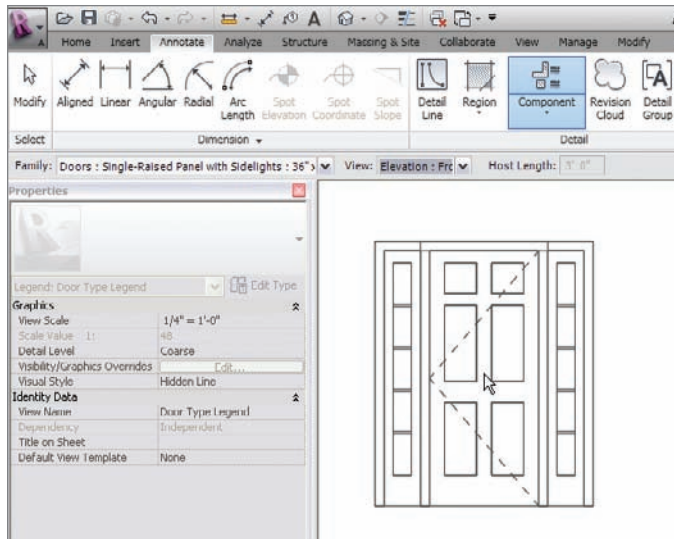

FIGURE 11.42 Changing the options for the legend
3. In the Options bar, choose Doors : Single - Raised Panel with Sidelights : 36"×84", as shown in Figure 11.42.